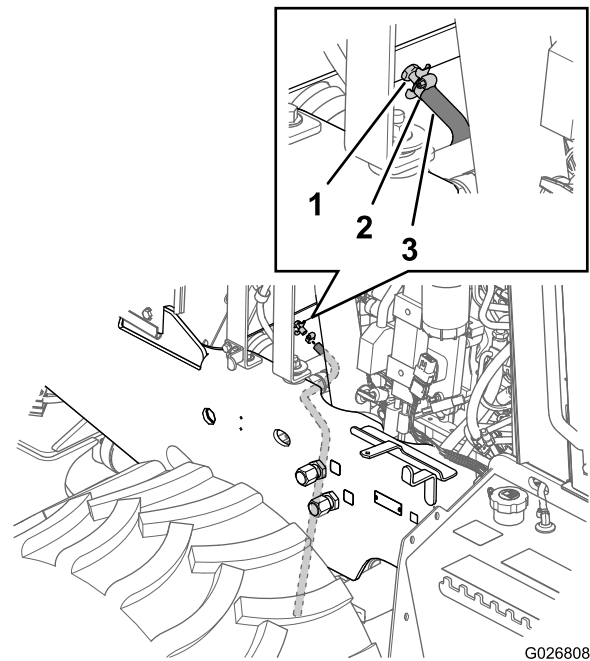
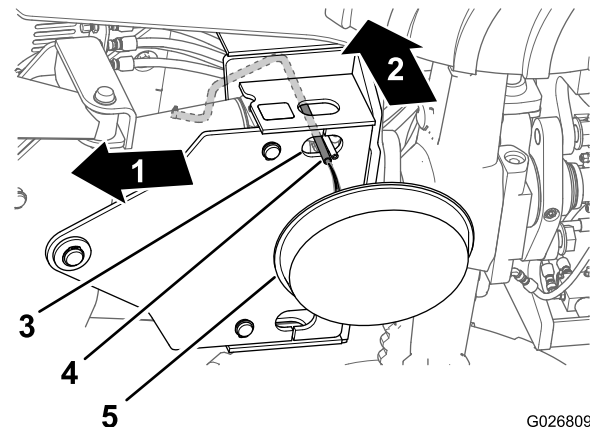
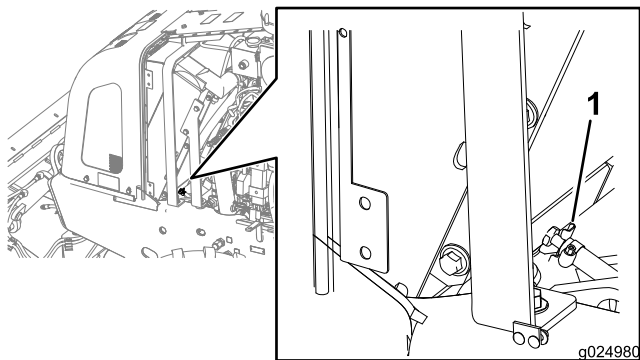

Figure 99
Figure 100
Figure 101
4. Slip a coolant resistant hose that is 3/8 x 30 inches over the outlet for the drain valve in the radiator (Figure 99).
5. Secure the hose to the drain valve with a hose clamp (Figure 99).
6. Route the hose down and through the hole in the lower mounting plate for the back fill blade (Figure 100).
7. Place a drain pan with a minimum capacity of 23 L (6 gallons) under the open end of the drain hose (Figure 100).
9. Close the drain valve (Figure 101).
10. Remove the drain hose and clamp (Figure 99 and Figure 100).
- A. Ensure that the coolant is drained from the radiator and that the drain valve is closed (Figure 101).
- D. Open the drain valve and drain the cleaning solution into a drain pan (Figure 99 and Figure 101).
- E. Close the drain valve (Figure 101).
- C. Open the drain valve (Figure 101) and drain the water into a drain pan.